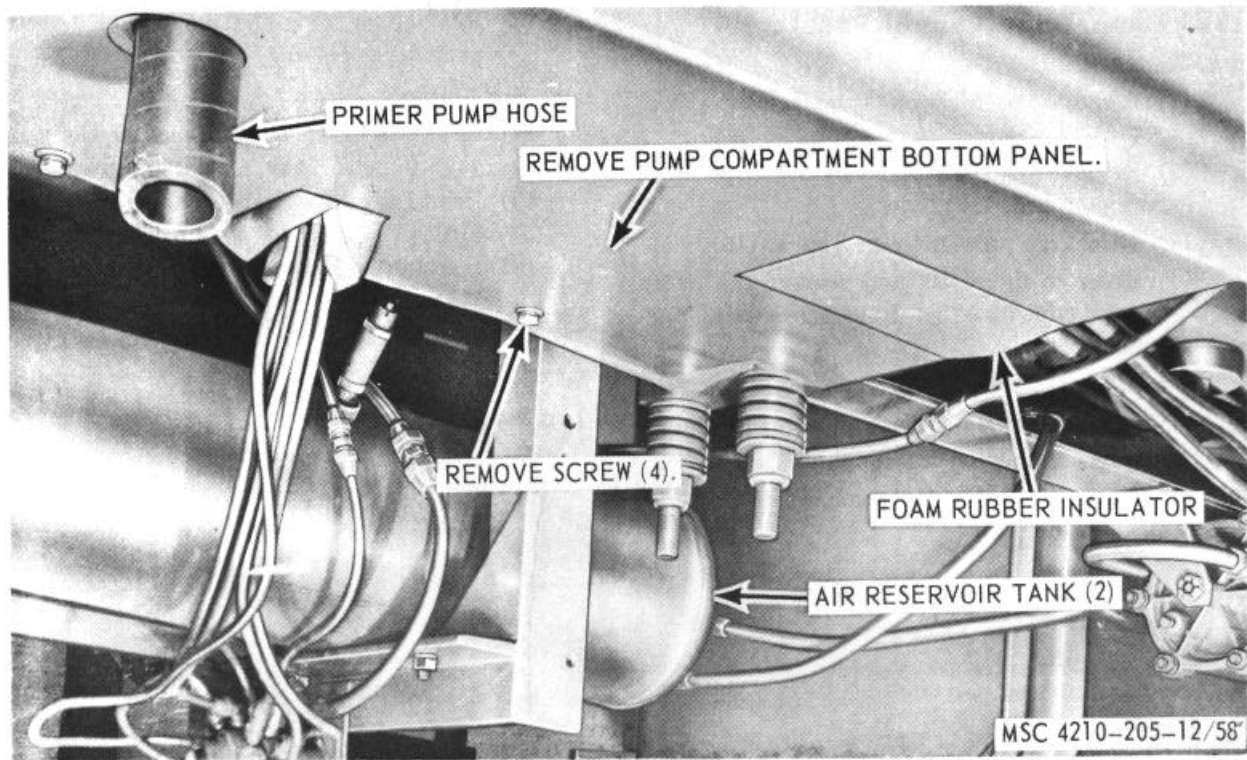

Figure 58. Pump compartment panel, removal and installation.
a. Removal. Refer to figure 58, and remove the pump compartment panel from the pump compartment.
- (1) Clean all parts with an approved cleaning solvent, and dry thoroughly.
- (2) Inspect all parts for damaged or defective condition.
- (3) Replace or repair damaged or defective parts as necessary.
c. Installation. Refer to figure 58, and install the pump compartment panel on the pump compartment.